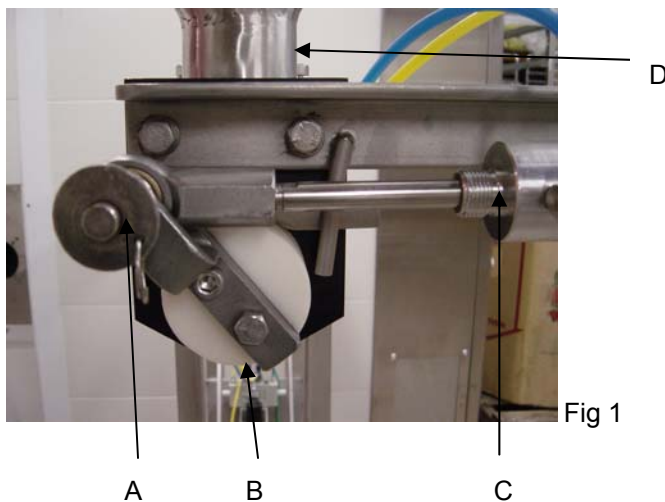

Fig 1
Make sure the quick release pin (A), portion piston (B), portion cylinder (C) and hopper (D) are properly mounted and locked in their positions before beginning machine start up. See Fig 1.